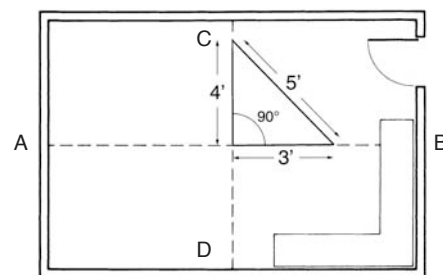

Fig. 8 - Square layout.
- Find the center of the line and snap a second chalk line at a right angle; use the 3’, 4’, 5’ method to form a right angle (Fig. 8).